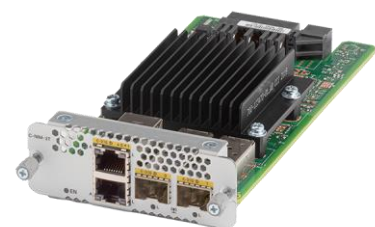

Figure 2.
- Cisco 2-port 100-Mbps/1-Gbps WAN NIM with 256-bit WAN MACsec (C-NIM-2T) **Figure 2**